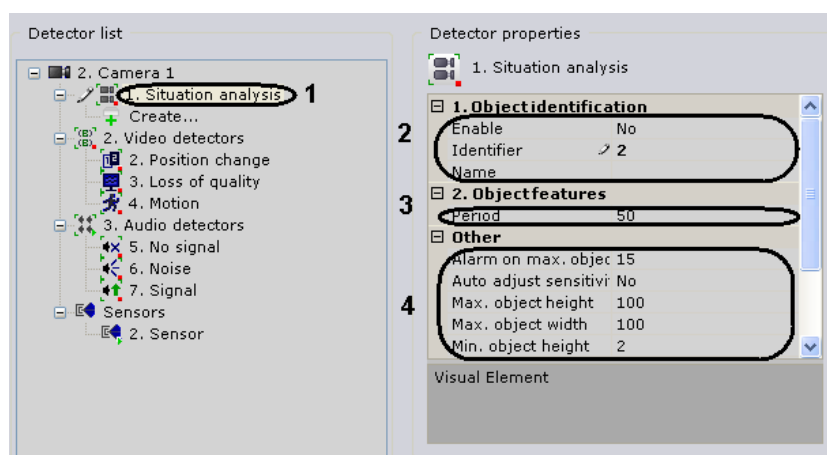

Fig. 6.5—2 General parameters of situation analysis detectors
1. In the detector list, highlight a **Situation analysis** object (Fig. 6.5—2, 1) which offers a means of analyzing the situation in the field of view of the required video camera.
2. In the **Period** field (see Fig. 6.5—2, 2), enter the time in milliseconds after which the next video image frame will be analyzed. The value should be in the range [0, 65535]. If the value is 0, each frame of the video image is analyzed.
3. If you need automatic adjustment of the sensitivity of a motion detector or an abandoned object detector, select **Yes** in the **Auto adjust sensitivity** list (see Fig. 6.5—2, 3).
4. In the **Max. object height** and **Max. object width** fields (see Fig. 6.5—2, 4), enter the maximum height and width of a detectable object as a percent of the height of the video image frame. The values should be in the range [2, 100].